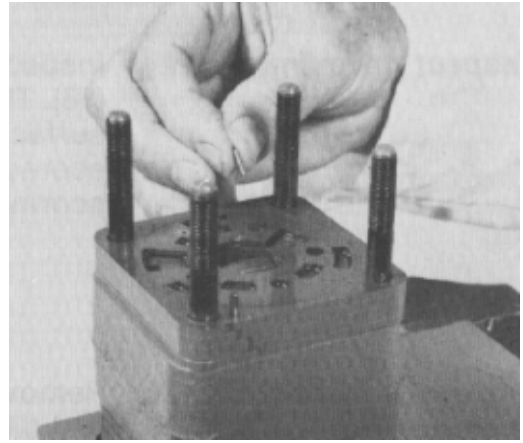

Figure 56
18. Remove the two alignment pins that align the port manifold, valve ring and isolation manifold (Fig. 56).